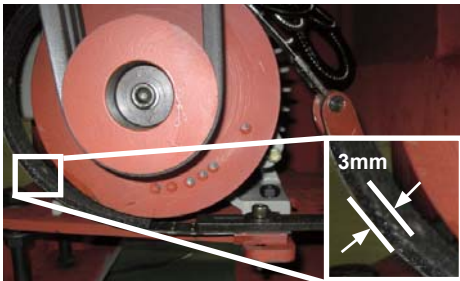

Figure 99. Minimum brake band lining thickness.
4. Measure the remaining brake band lining at the thinnest point, which is usually at the 8 o'clock position, as shown in Figure 99.